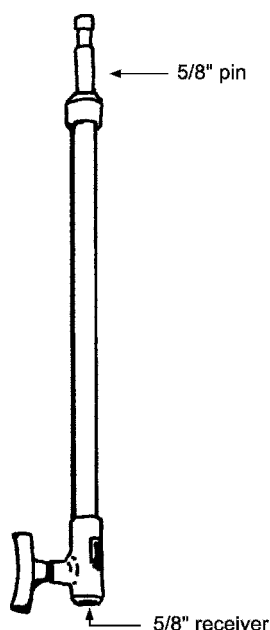

Figure 2.65 Stand extension pin.
1. The stand extension (Figure 2.65) will add extra height to various light and grip stands.